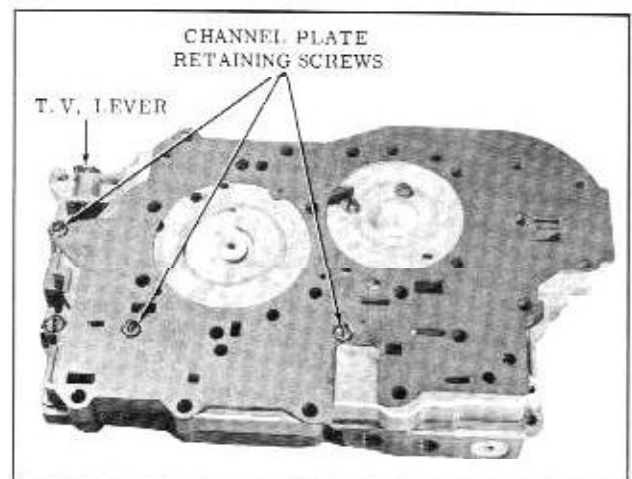

Fig. 3-86 Control Valve Assembly
3. Turn the control valve assembly over so rear T.V. lever is located in the upper left hand corner. (Fig. 3-86)